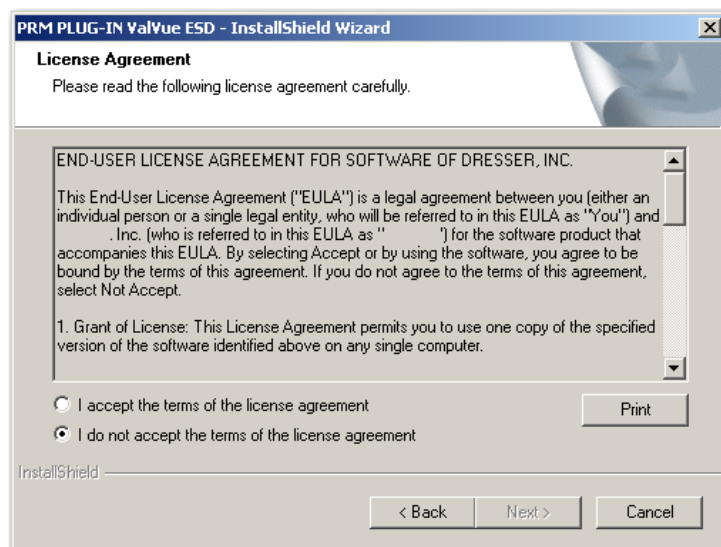

Figure 14 - PRM Plug-In License Agreement
3. Click **Next** and the *License Agreement* screen appears (*Figure 14*).